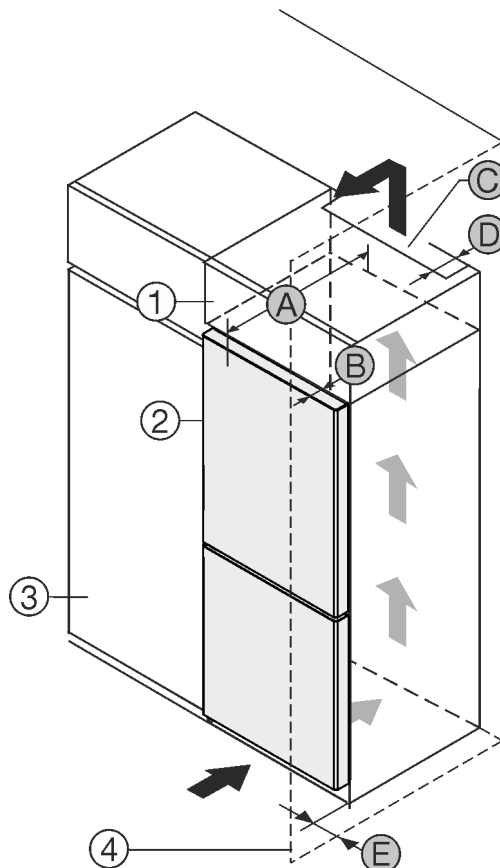

Fig. 1
- (3) Kitchen cabinet \*      (D) Distance to the back of the appliance \*
- (4) Wall \*                      (E) Distance to the side of the appliance \*
- (A) Appliance depth \*
You can place the appliance directly beside the kitchen cabinet *Fig. 1 (3)*.\*
There must be a ventilation shaft at the depth *Fig. 1 (D)* of the back of the top cupboard over the entire width of the top cupboard.\*
The ventilation cross-section *Fig. 1 (C)* must be maintained under the ceiling.\*
If the appliance is set up with the hinges next to a wall *Fig. 1 (4)*, the distance between the appliance and the wall must be at least 13 mm.\*
If the appliance is set up with the hinges next to a wall *Fig. 1 (4)*, the distance between the appliance and the wall must be at least 20 mm.\*
In order to be able to fully open the door, the appliance must protrude by the depth of the door *Fig. 1 (B)* from the front of the kitchen cabinet. The appliance may protrude further depending on the depth of the kitchen cabinets *Fig. 1 (3)* and whether wall spacers are used.\*